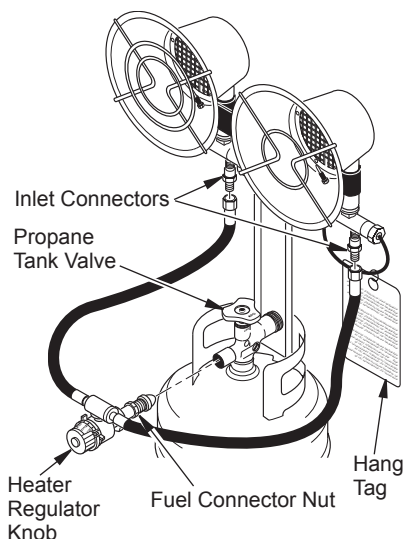

Figure 3 - Connecting Heater to Propane Tank
4. Wrench tighten the fuel connector nut into the propane tank valve with both gas hose fittings in a horizontal position (see Figure 3). Turn fuel connector nut counterclockwise to tighten. Threads are left-handed.
5. Connect both hoses to inlet connectors (see Figure 3). Tighten firmly using wrench. Make sure both hoses are connected before opening the tank valve.